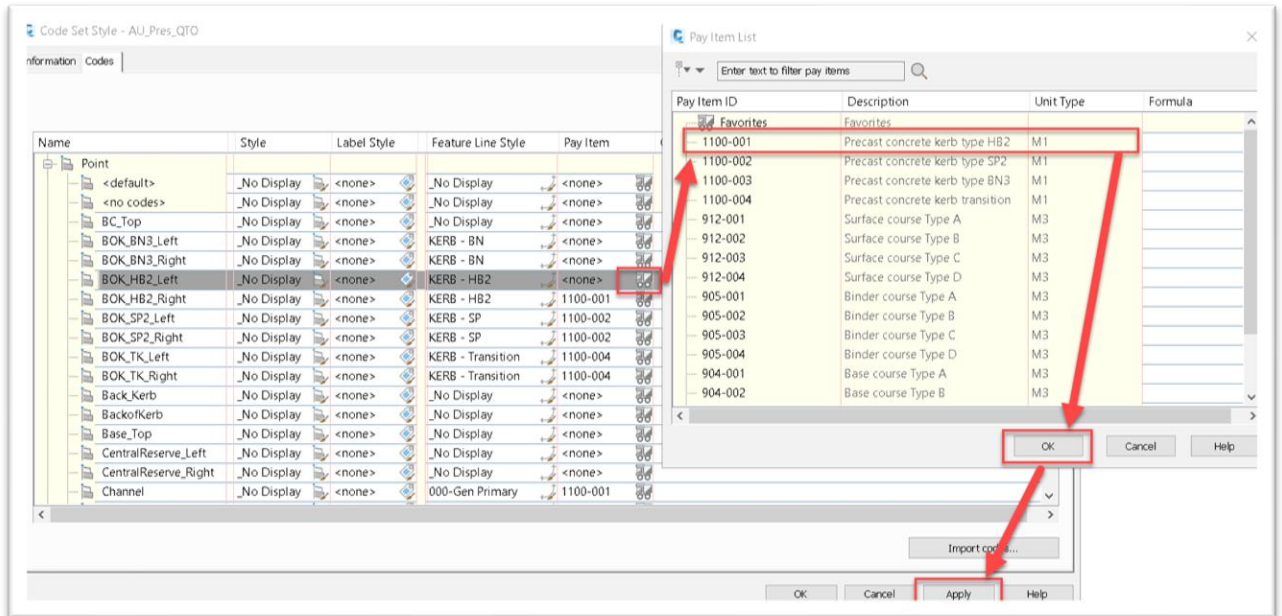

Figure 42 - Assigning Pay Items to Point Codes
- Assign the pay items to the point codes as shown in Figure 42.